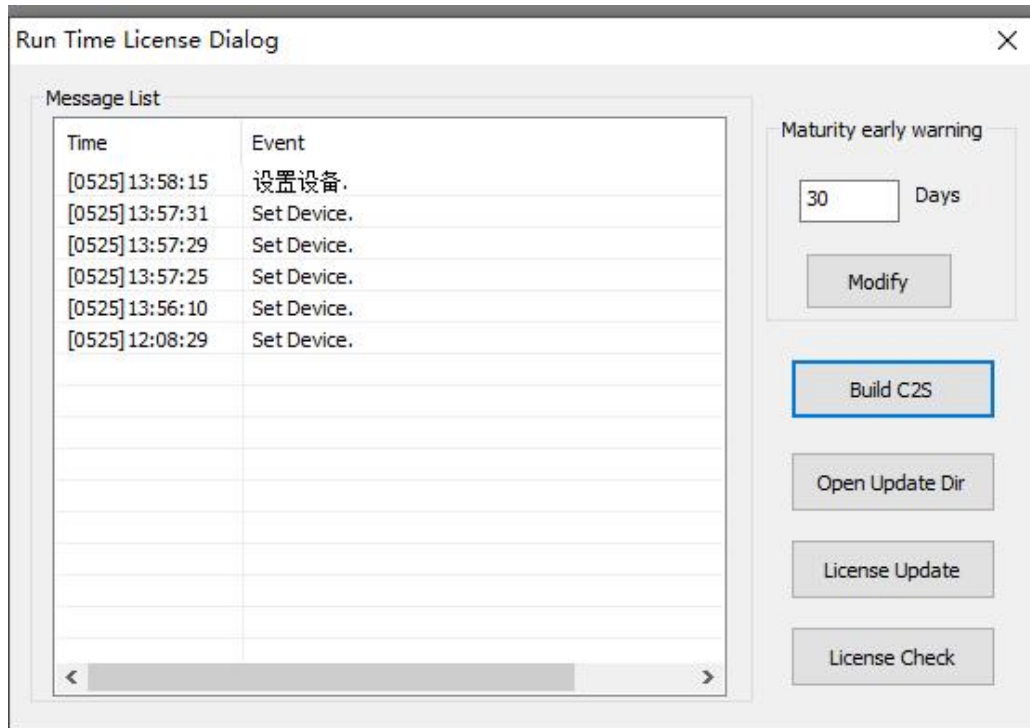

Figure 1-32 Software License
2. Software License: used to encrypt and decrypt device permissions. As shown in Figure 1-32